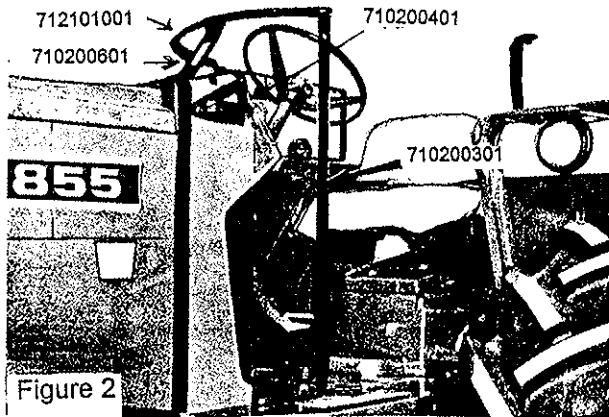

Figure 2
2. Bolt #710200601 yoke mounting bracket to #710200401 saddle using two (2) 5/16" x 3/4" hex head bolts and nuts. See Figure 2.
4. Place vinyl cover over tractor. Slide #712101001 yoke into wide hem at top of vinyl. Bolt yoke to mounting bracket with two (2) 1/4" x 3/4" flat head bolts and nuts. **NOTE:** Head of bolts go to front of tractor. See Figure 2 & 3.
5. Slide #710200301 door post in wide hem on left side of vinyl. Bolt top to yoke using 1/4" hex head bolt and nut. **NOTE:** Head of bolt goes to back of tractor. Remove 5/16" bolt in platform and use it to bolt lower door post to tractor. See Figure 2.